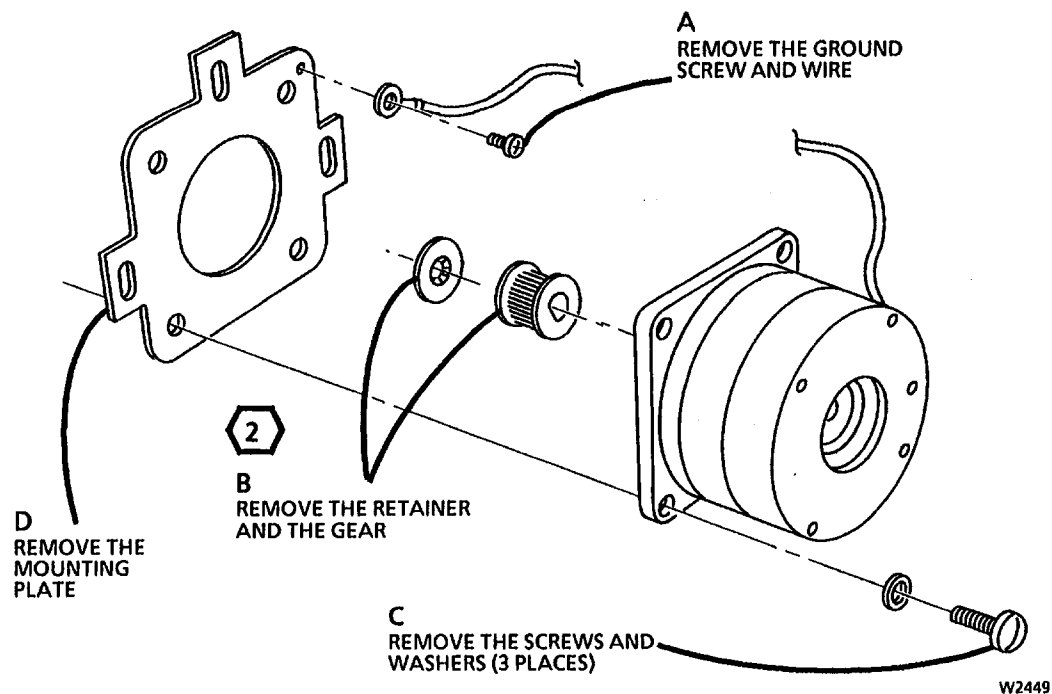

Figure 2. Removing the Media Transport Drive Motor from the Mounting Plate
5. (Figure 2): Remove the Media Transport Drive Motor from the mounting plate.